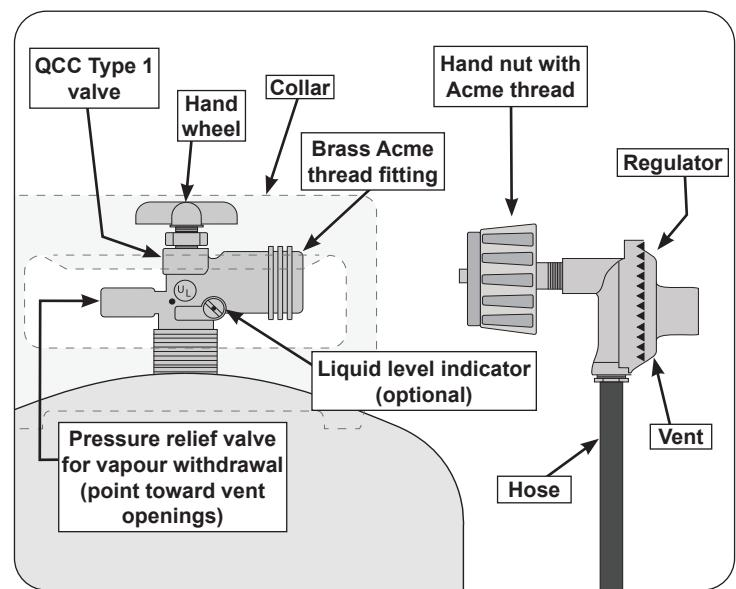

Fig. 7-1 Type I Acme thread coupler
- d. The cylinder used must include a collar to protect the cylinder valve. The cylinder supply system must be arranged for vapour withdrawal. See Fig. 7-1.
- e. When used with a cylinder, the gas supply system must be used with a pressure regulator. The pressure regulator and hose assembly (**not supplied**) used must match the specification for Type I by ANSI Z 21.58/CGA 1.6 and must comply with UL 144 as a part of the self-contained LP gas supply system (see Fig. 7-1).
**To disconnect:** Turn the hand nut counterclockwise until detached (Fig. 7-1).